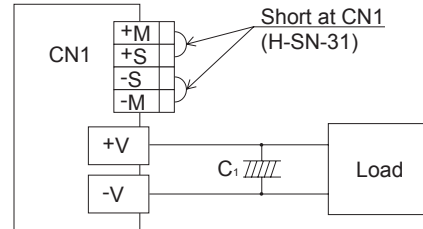
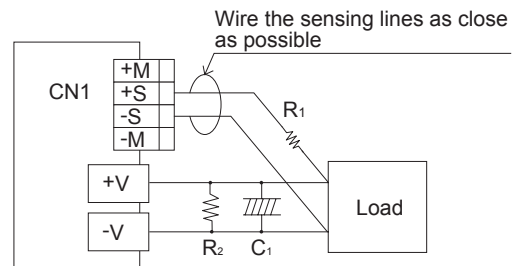

Fig.5.10 When not using remote sensing function
Fig.5.11 When using remote sensing function
The operating conditions of the LV alarm are shown in Table 5.10. The internal circuit of the LV alarm is shown in Fig. 5.11. The LV alarm is isolated from input, output, and FG.
- The wire connection when remote sensing is used or not used is shown in Fig. 5.10 - Fig. 5.11.
- ① Wiring must be done carefully. If there is bad connection on the load lines due to loose screws, etc., the load current flows into the sensing lines and the internal circuit of the power supply may be damaged.
- ② Make sure the wires between the load and the power supply are thick enough to keep the line drop less than 0.3V.
- ③ If the sensing wires are long, place C1 and R1 across the load lines.
- ④ Use a twisted pair wire or a shielded wire for the sensing lines.
- ⑤ Do not draw the output current from +M, -M, +S or -S.
- ⑥ The impedance of the wiring or the load may cause the output voltage to oscillate or fluctuate.